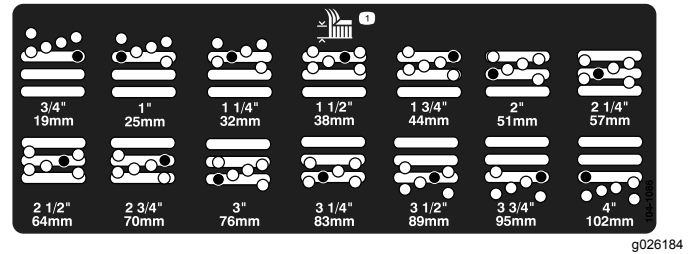

Figure 20
5. Move the chamber to the desired height of cut and install a spacer into the designated height-of-cut hole and slot (Figure 20).